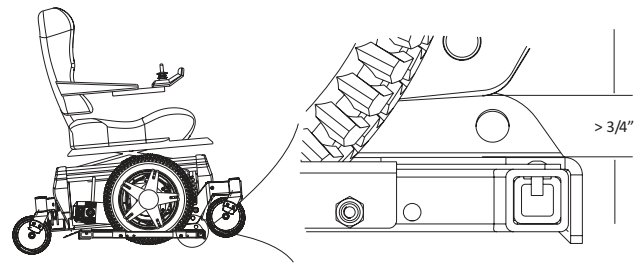

Figure 6-20
3. If the chair is leaning to far too the driver's side of the vehicle, move the passenger side wheel chock away to create a bigger opening. See Figure 6-20.